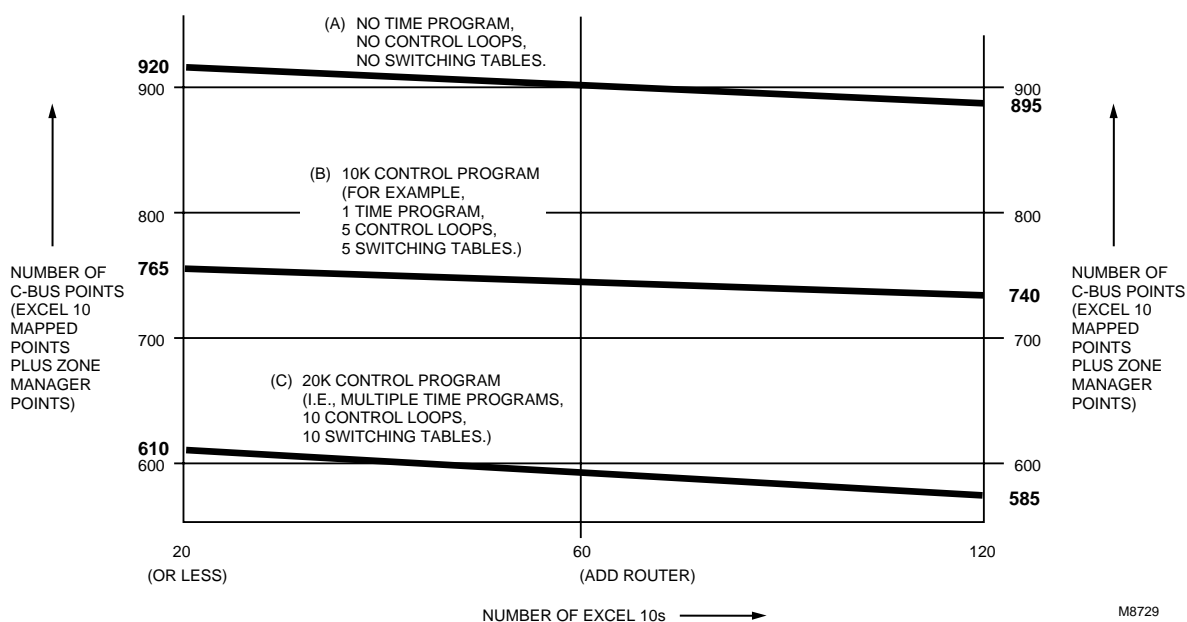

Fig. D-1. Point capacity estimate for Zone Manager.
- Use Fig. D-1 to determine the number of Excel 10s that can be connected to the Zone Manager.